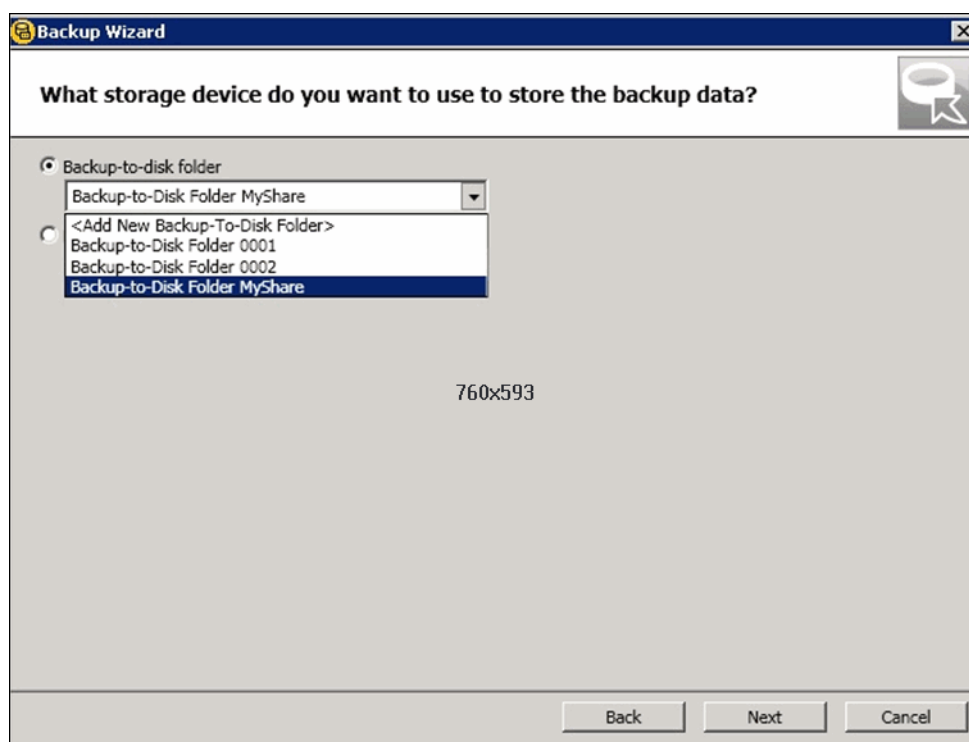

Figure 14-3 Choose backup-to-disk folder from the Backup Wizard window
6. Select **Backup-to-disk folder** and, in the drop-down list, select the folder that you configured (Figure 14-3). Then, click **Next**.